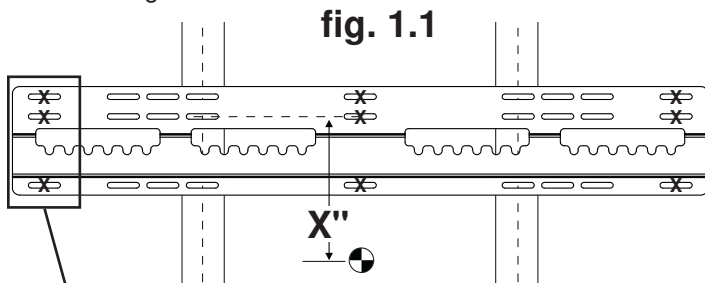

fig. 1.1
- 1 Wall plate (A) can be mounted to two studs that are 16", 20", or 24" apart. Use a stud finder to locate the edges of the studs. Use of an edge-to-edge stud finder is highly recommended. Based on their edges, draw a vertical line down each stud's center. Place wall plate on wall as a template. The top mounting slots should be located X" above the desired display center as shown in figure 1.1 and 1.2. Level plate, and mark the center of the four mounting holes. Make sure that the mounting holes are on the stud centerlines. Drill four 5/32" (4mm) dia. holes 2" (51mm) deep. Make sure that the wall plate is level and secure it using four wood screws (C) as shown in figure 1.3.